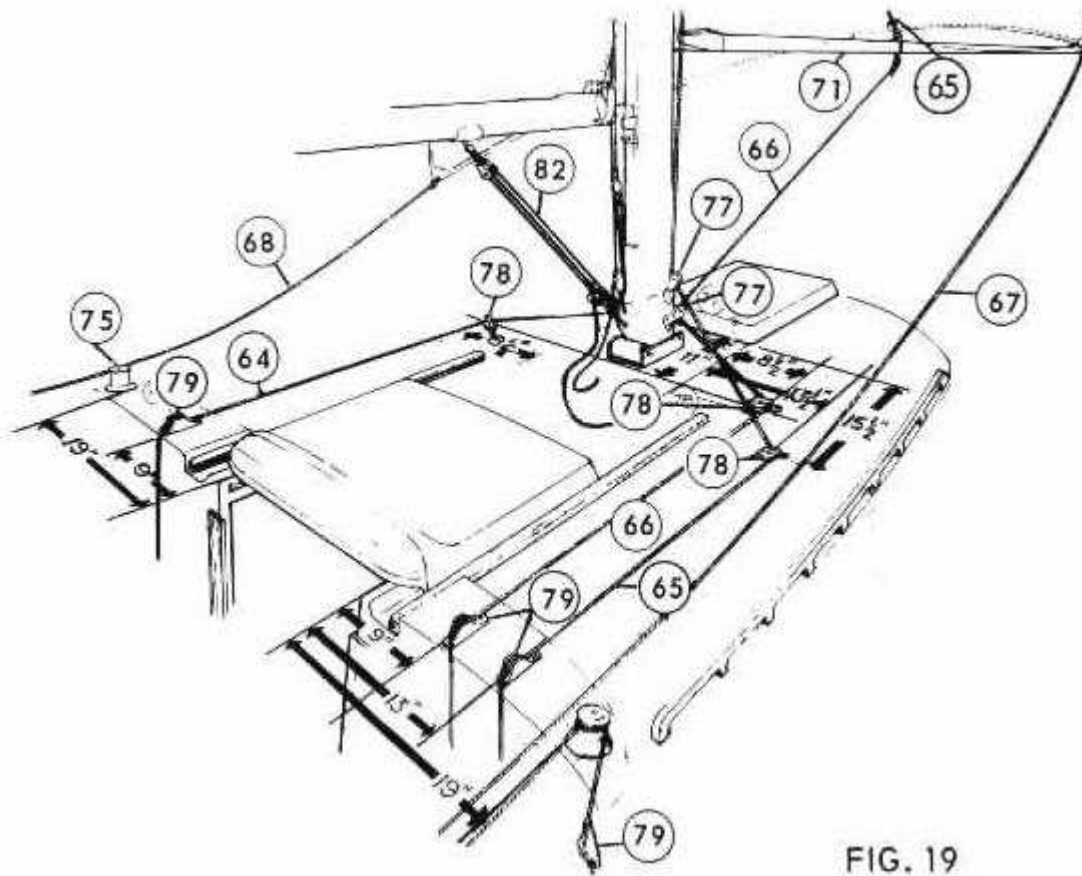

FIG. 19
Winches are essential to control the spinnaker sheet and after guy in anything but very light winds. Snubbing winches (75) mounted on the after end of the cabin top as shown in Figure 19 are the most convenient. By using these winches rather than the genoa winches, the sheet and guy may be controlled from the foredeck or bow pulpit, thus allowing sight of the luff of the spinnaker sail when reaching with the working jib or a genoa set. Use of the snubbing winches for this purpose leaves the genoa winches free for the genoa when reaching.